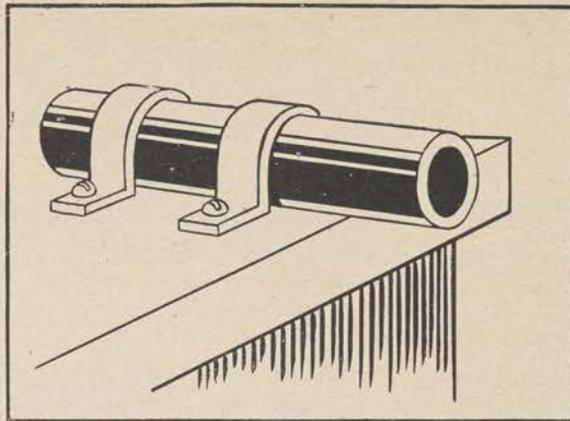

Figure 8.
b. A section of pipe strapped down with strips of metal or leather provides a mandrel for metal work (fig. 8).